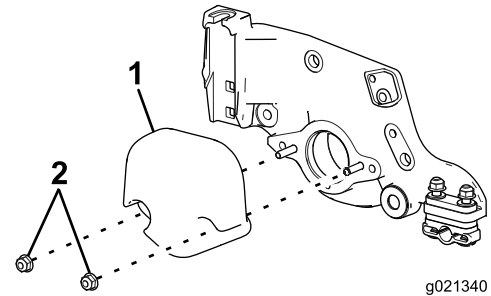

Figure 2
5. Remove the nuts and the counter weights on the cutting unit (Figure 2).